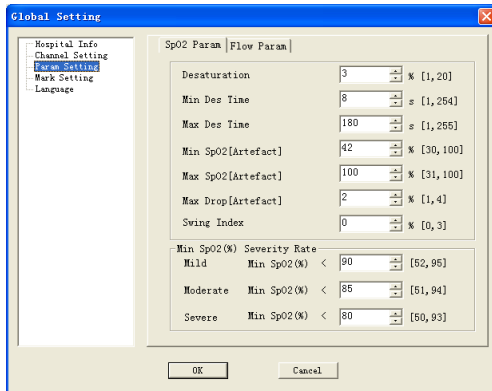

Figure 5.27
- 3) “Param Setting” contains two setting interfaces: “SpO2 Param” and “Flow Param”, the corresponding parameter value can be set in each interface, as shown in Figure 5.27.